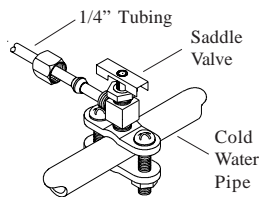
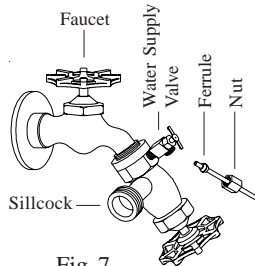

Fig. 6
Fig. 7
- Connect water supply line.** Find the closest supply of water. Use a saddle valve (Fig. 6) to connect 1/4" tubing to the cold water supply or use a Sillcock and water valve connected to an outside faucet (Fig. 7). Place the nut and ferrule on the tubing and tighten the nut until water tight. **IMPORTANT:** Do not connect the water supply to any soft water applications. Soft water will cause corrosion and decrease the life of the cooler.